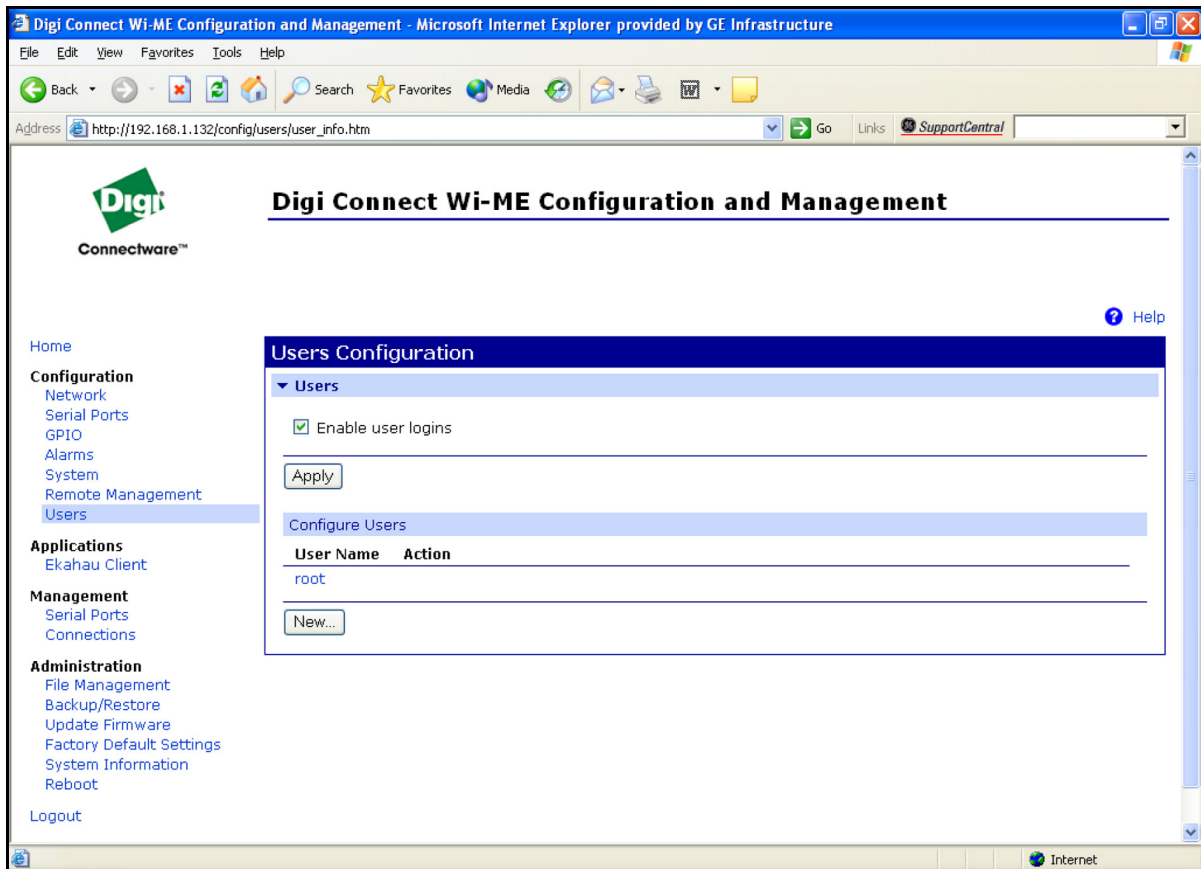

Figure 34: User's Configuration Menu
3. Click on **Login**. Figure 34 appears.